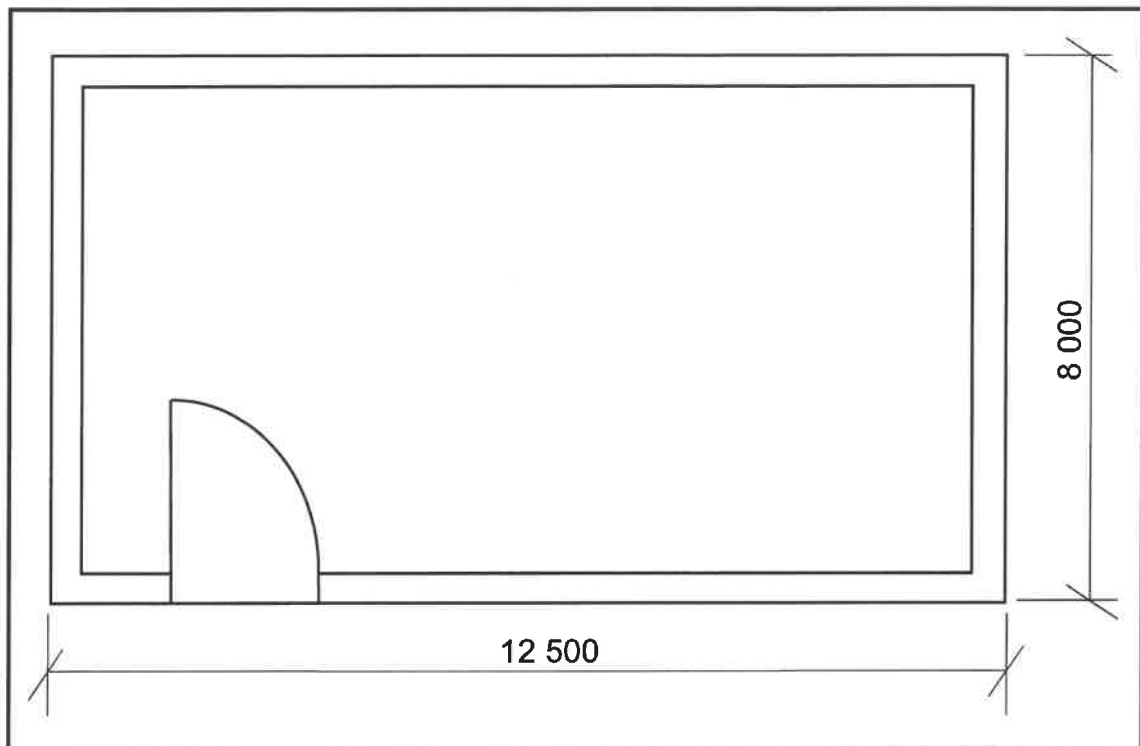

FIGURE 6.7
6.7 FIGURE 6.7 below shows the floor plan of a small tool room with a gable roof.